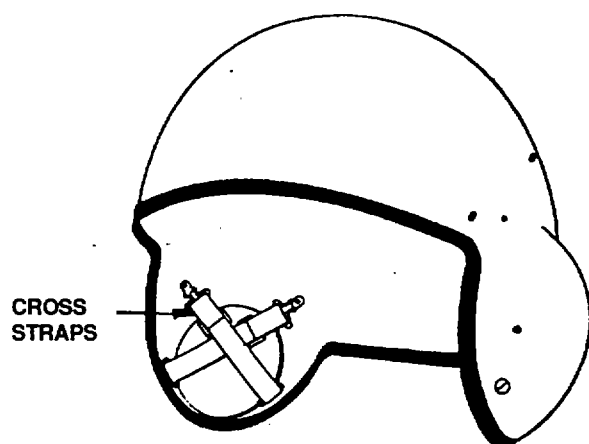

Figure 2-3. Cross Straps
d. Cross Straps (Figure 2-3). The cross strap buckles can be adjusted for proper earcup tension by tightening and loosening as required (through trial and error).